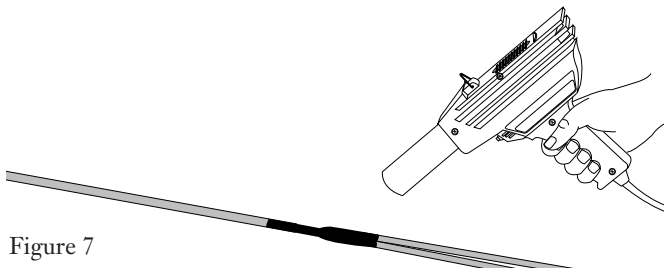

Figure 7
6.2 Slide the heat shrink tubing over the center of the furcation. Carefully shrink the tubing into place with a heat gun (Figure 7). Do not overheat or burn the PVC jackets of the DIB cable and the legs.